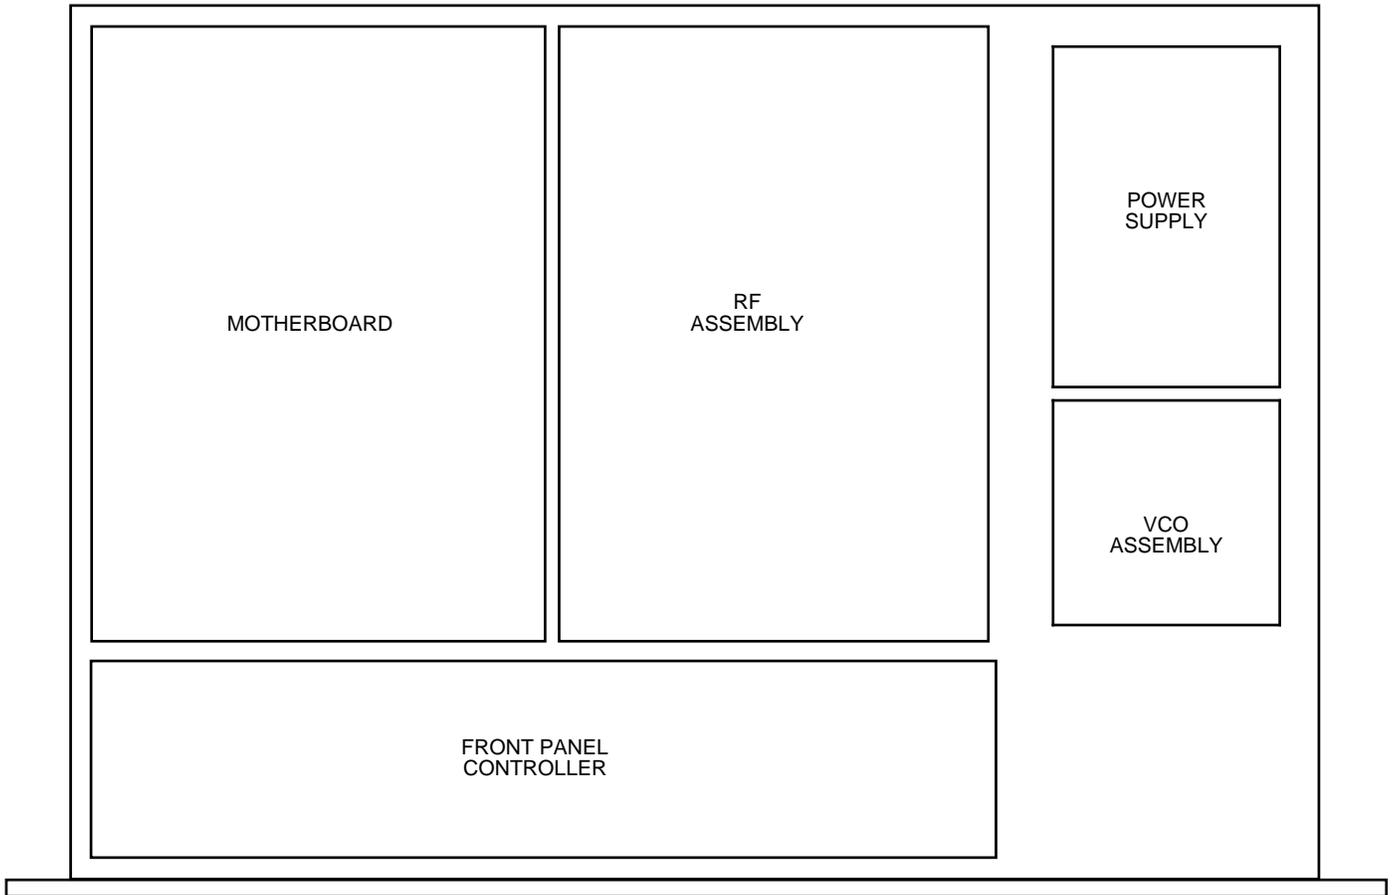

FIGURE 2.0 3115-41-184 Mechanical Assembly
2.1 Mechanical - The 3115-41-184 Multi-Band Block Upconverter consists of a controller board and RF plate assembly. A switching ± 12 , $+24$, $+5$ VDC power supply provides power for the assemblies. The 3115-41-184 can be secured to a rack using the 4 holes on the front panel. Figure 2.0 shows how the 3115-41-184 is assembled.